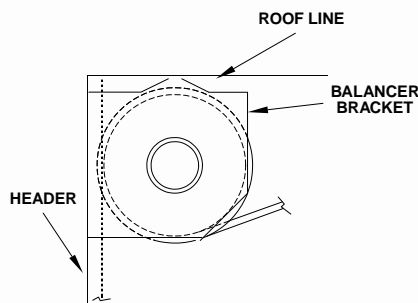

FIGURE 7
- c.) Wind cable into cable drum following grooves. It is important that end of cable is inserted fully into notch. If this is not done properly, it could interfere with drum movement. Cable should come off of the **bottom** of drum * and connect to door. **SEE FIGURE 7**